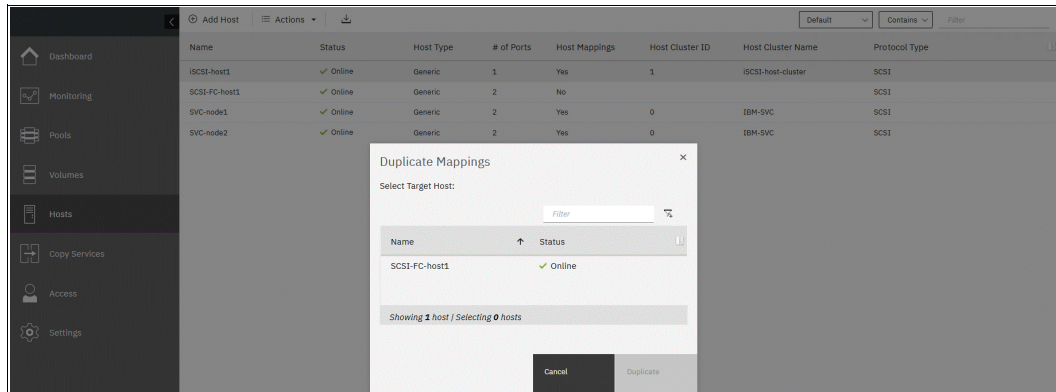

Figure 7-42 Duplicate Mappings window
- The Duplicate Mappings window opens. With it, you can select a target host to which you want to map all the existing source host volumes (see Figure 7-42 on page 443). In this example, only the target candidate is a host that has no existing mappings.